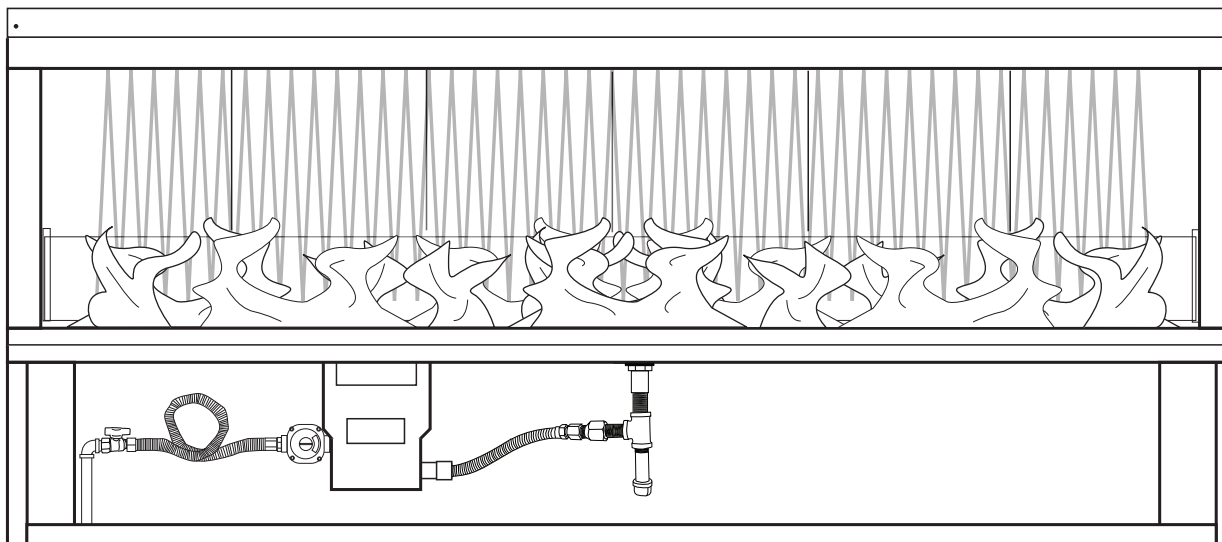

Figure 41 Proper flame height.
Proper flame height (*Figure 41*) should be at the top edge of glass windshield (peaking above at times) while on HI setting. Note: Glass windshield is 7-inches tall. The LO setting will be at least half of the height of HI or maybe lower. There can be a variance in flame height between Natural Gas and Liquid Propane (LP) Gas models.
Inspect Burner Flame and Pilot Flame Appearance Periodically do a visual check of the burner flame and the pilot flame. Ensure that the burner flame appearance resembles the flame shown in *Figure 41, Page 27*. Refer to *Figure 34 on Page 24* for more information about the pilot flame appearance. Contact a qualified service technician at once if any abnormal condition is observed.